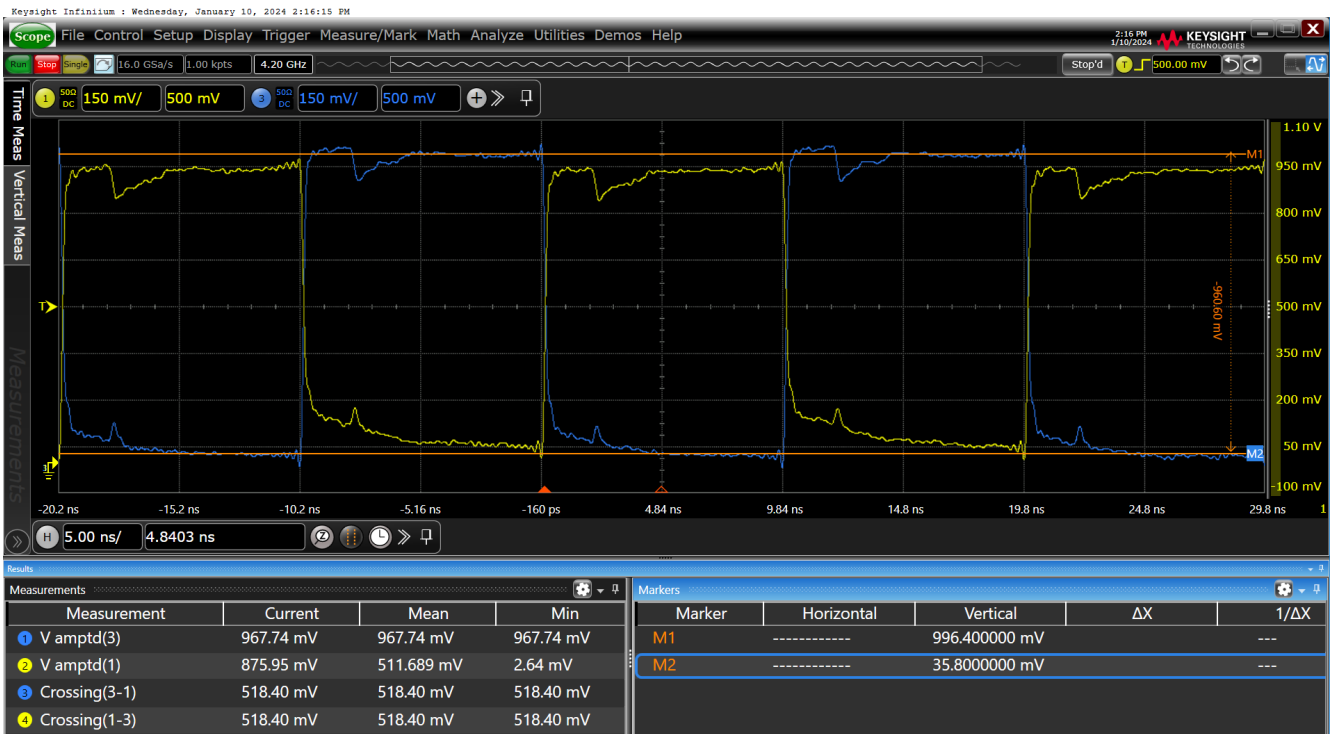

Figure 11. Vovs–HCSL Internal Termination SWING = 800mV on nOUT11
- Figure 11. Vovs–HCSL Internal Termination SWING = 800mV on nOUT119